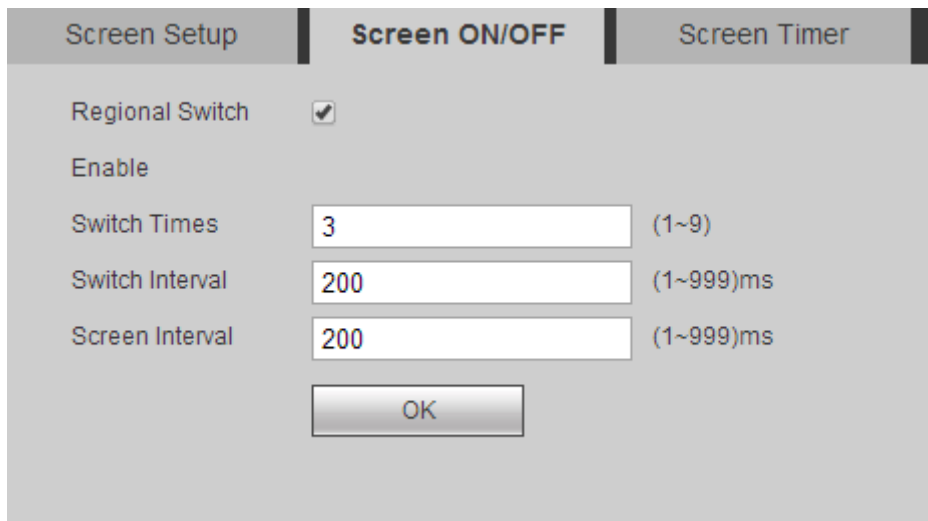

Figure 4-102
Step 1 Select “Setup>Display >Screen >Screen ON/OFF”. The system displays “Screen ON/OFF” interface, as shown in Figure 4-102.